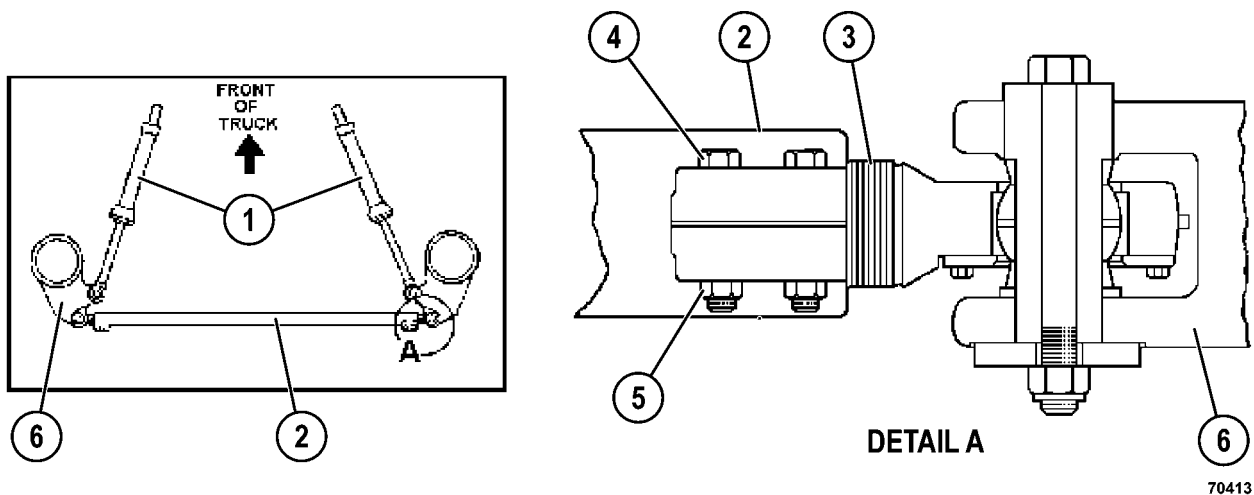

FIGURE 3-16. TYPICAL TIE ROD ASSEMBLY
- a. Loosen clamp locknuts (5, Figure 3-16) on the tie rod. Rotate the tie rod as necessary to obtain the correct toe-in setting of 3 667 mm (144.37 in.).
5. Tighten locknuts (5, Figure 3-16) to **420 ± 42 N·m (310 ± 31 ft lb)**.
NOTE: Locknuts (5) must be installed on the same side of the tie rod as the bearing retainer (downward side) as shown in Figure 3-16.